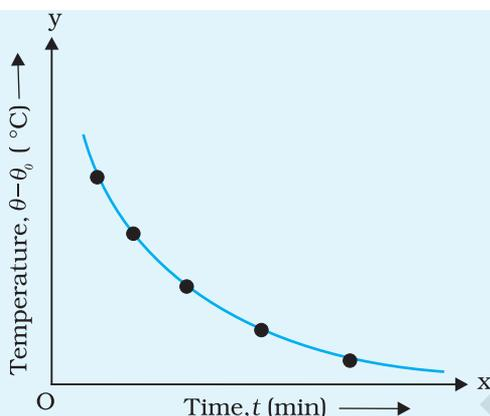

Fig.E 14.2: Graph between $(\theta - \theta_0)$ and t for cooling
- Plot a graph between $(\theta - \theta_0)$ and t as shown in Fig. E 14.2 taking t along x-axis and $(\theta - \theta_0)$ along y-axis. This is called cooling curve.
The cooling curve is an exponential decay curve (Fig. E 14.2). It is observed from the graph that the logarithm of the excess of temperature of hot body over that of its surroundings varies linearly with time as the body cools.
1. Find the slope and intercept on y-axis of the straight line graph (Fig. E 14.2) you have drawn. Determine the value of constant k and the constant of integration c from this graph.